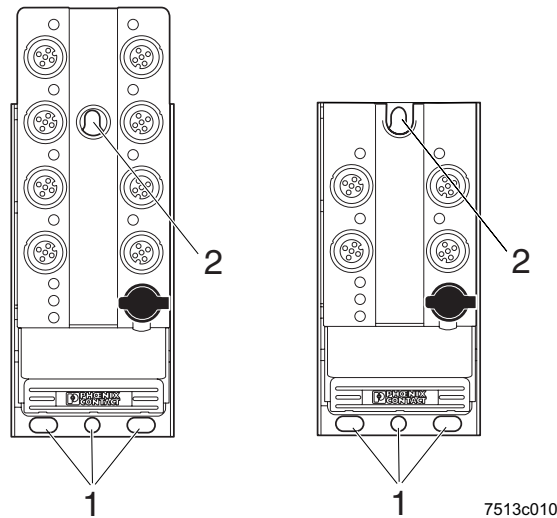

Figure 4-5 Front mounting of Fieldline Extension AS-i M12 device
The devices can be mounted directly on the mounting surface using two or more mounting holes (1) in Figure 4-5. The diameter of the mounting holes is 4 mm, the cylindrical sinking is 8 mm. For the drill hole spacing, please refer to the dimensional drawings on page 4-3.
Use the protection against unlocking (FLX ASI M12 FS, Order No. 2773539) to prevent the device from getting unlocked unintentionally. Screw the protection against unlocking to one of the mounting holes (1) in Figure 4-5.